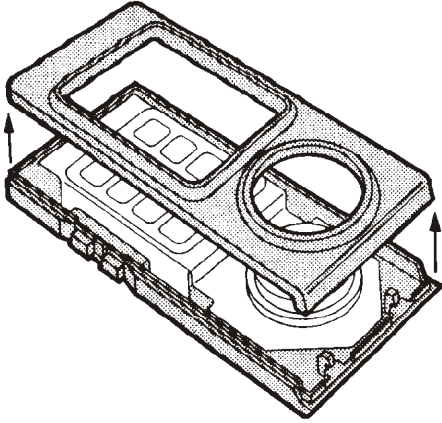

Figure 9
(1) While holding the top and bottom housings together, turn the Hand Controller right side up. Set it back on a flat surface. (See Figure 9.)